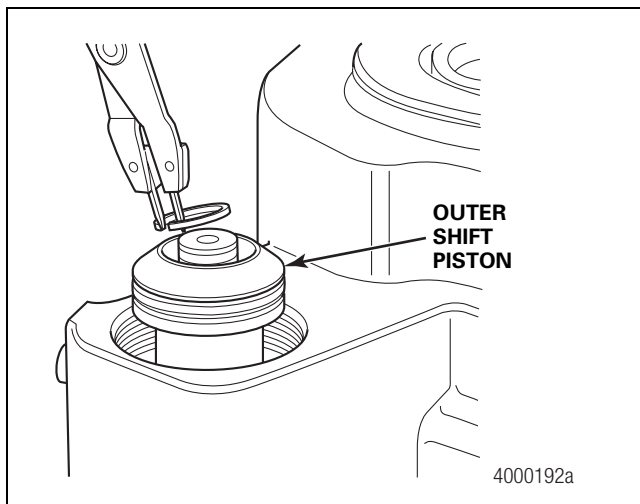

Figure 4.15
4. Remove the outer shift piston snap ring from the shift shaft. Remove the shift piston. Figure 4.15.